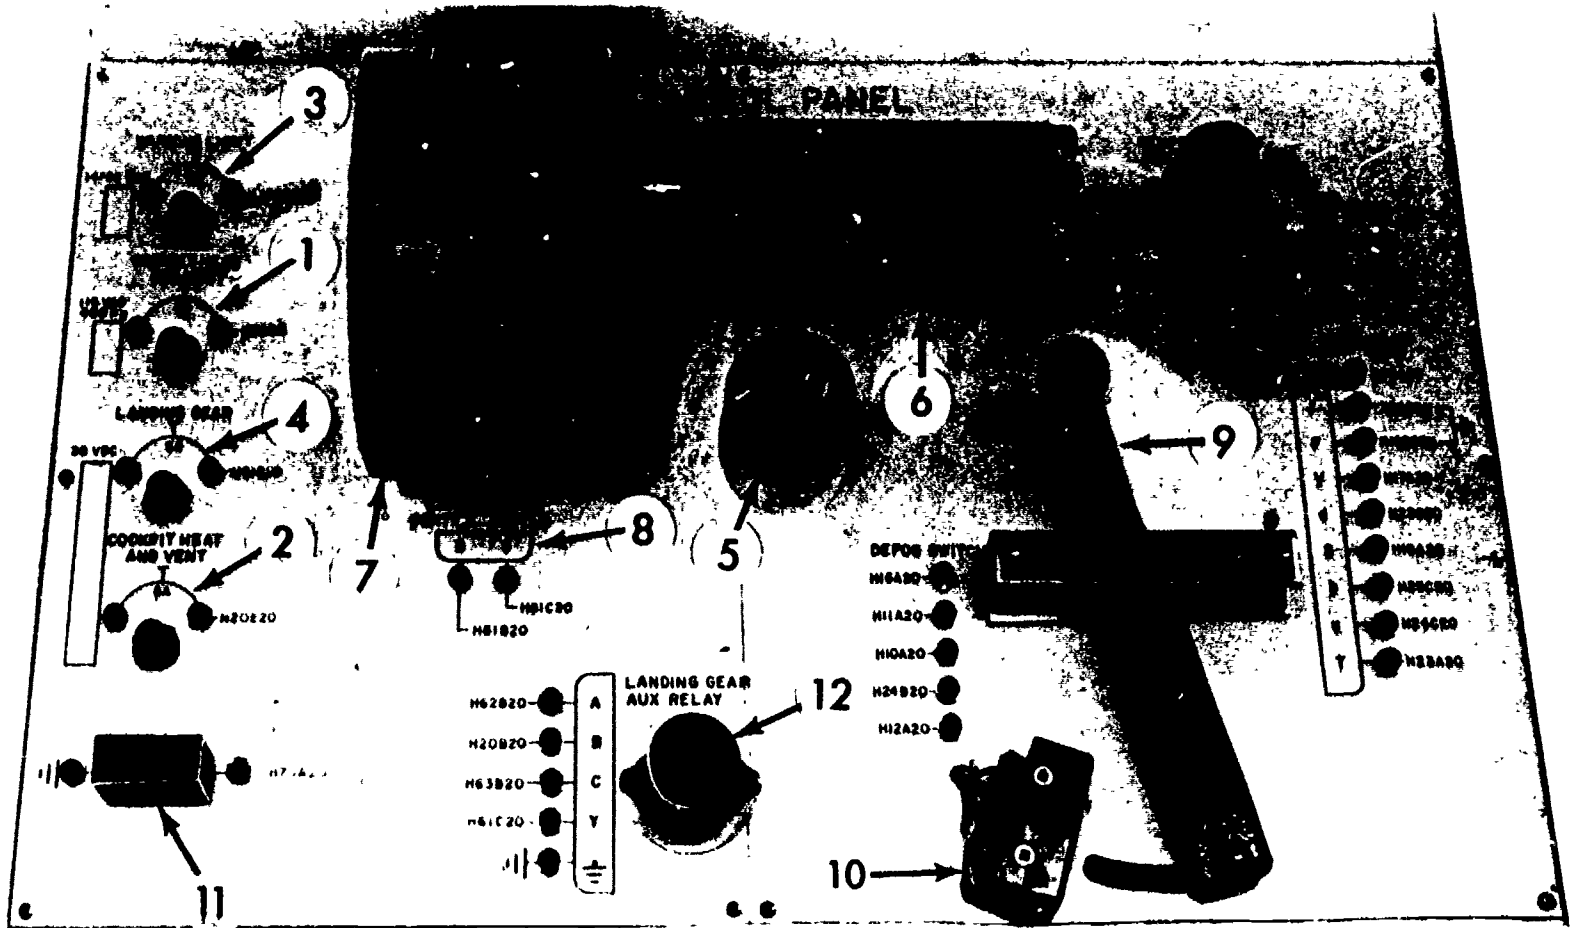

Figure 2. Fighter Air Conditioning Trainer.
- (1) Bleed air pressure regulator and shutoff valve.
- (2) Cabin dual temperature mixing valve.
- (3) Ground cooling ejector shutoff valve.
- (4) Cabin temperature sensor.
- (5) Cabin manual temperature limiter.
- (6) Turbine overspeed pressure switch.
- (7) Emer air inlet valve.
- (8) Water separator.
- (9) Anti-ice valve.
- (10) Anti-ice controller.
b. Using the trainer and figure 2, locate each of the numbered items. Write the names of each item in the blank space. As you locate the items notice the check points for checking the electrical circuit.
(1) _____
(2) _____
(3) _____
(4) _____
(5) _____
(6) _____
(7) _____
(8) _____
(9) _____
(10) _____